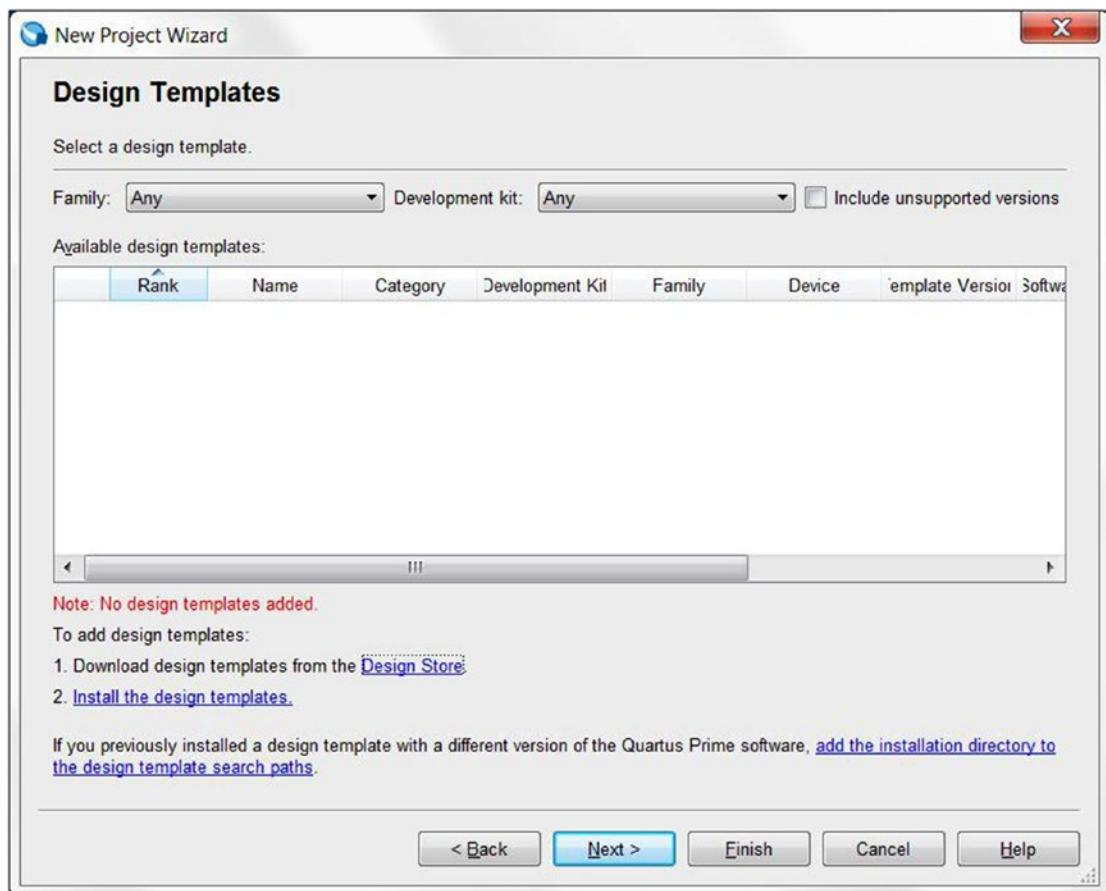

Figure 4-6. Quartus Prime New Project Wizard dialog box—Design Templates
6. If you downloaded the file BeMicro_MAX10_top.par from Chapter 3, then please go to step 12. Take the following steps to download the project template. Click **Design Store** (Figure 4-6) which will open an Internet browser and access the Altera Design Store. Please follow the steps 7-11 to download the BeMicro Max10 project template from the Altera Design Store. You can use the following project template link to download it directly or download the BeMicro Max10 project template and then go to step 12: